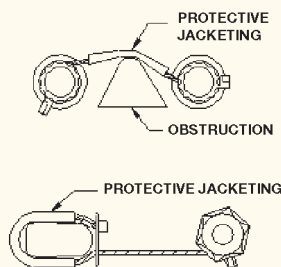

FIGURE 13: Safe-T-Cable® Jacketing for Protection
1.7 Safe-T-Cable® Jacketing for Protection: It is recommended to use a tubular jacket over Safe-T-Cable® when it is installed in a location where it is in contact with (or may contact) surfaces which may damage the cable (shown in Figure 13). The tubular jacket material shall be capable of meeting the temperature range of the application and shall be resistant to oil and chemical environments.